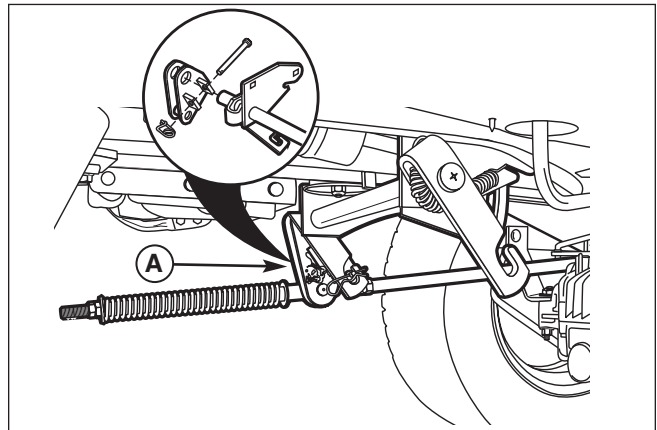

Figure 12. Lift Arm Extension Installation
2. Slide the lift bracket (A, Figure 12) and lift rod assembly on the right stub at the end of the lift assembly cross-shaft. Secure with a clevis pin and hair pin clip (see Figure 12 inset).